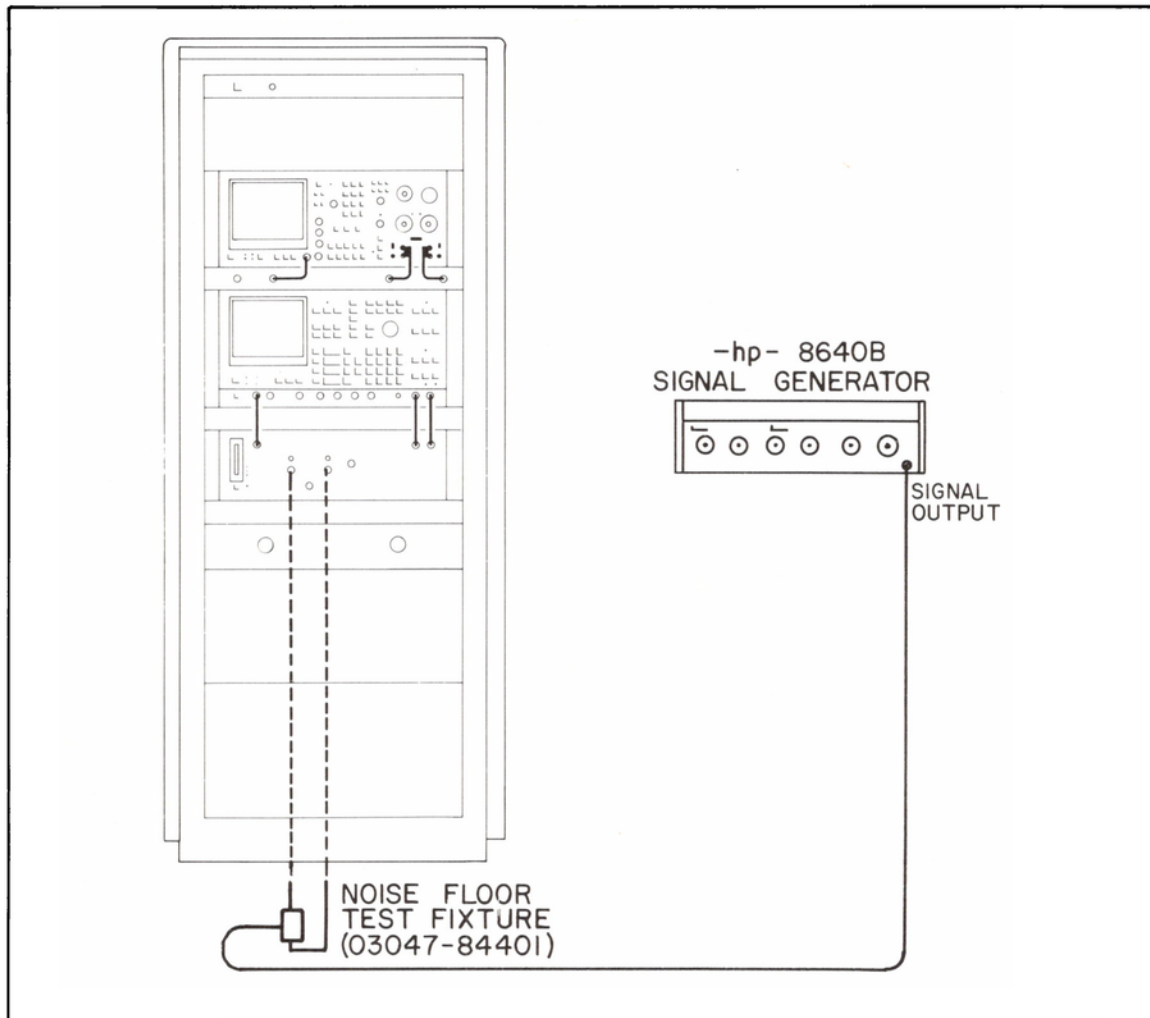

Figure 3-2. Noise Floor Equipment Set-up
6. Set up the equipment as shown in Figure 3-2.